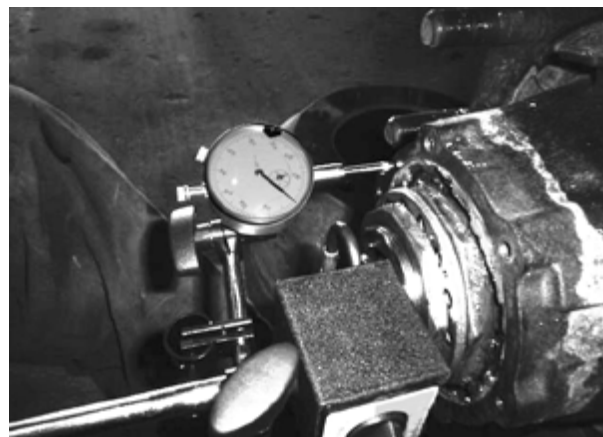

Figure 4: Checking end play
Dial Indicator, with mounting stand (resolution to 0.0001", 0.002 mm)	End-play measurement (Figure 4 on page 7)
4. **Attach** dial indicator (Table 2) with magnetic base to flat surface at end of spindle (Figure 4).